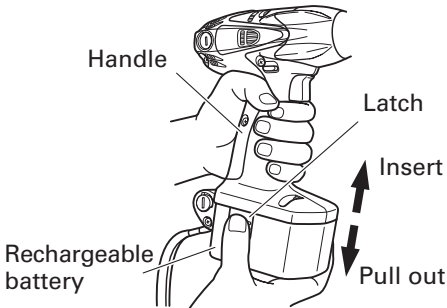

Fig. 3
- How to install the battery. Align the battery with the groove in tool handle and slip it into place. Always insert it all the way until it locks in place with a little click. If not, it may accidentally fall out of the tool, causing injury to you or someone around you. (Fig. 3)
- How to remove the battery. Withdraw battery from the tool handle while pressing the latch on the side of the battery. (Fig. 3)